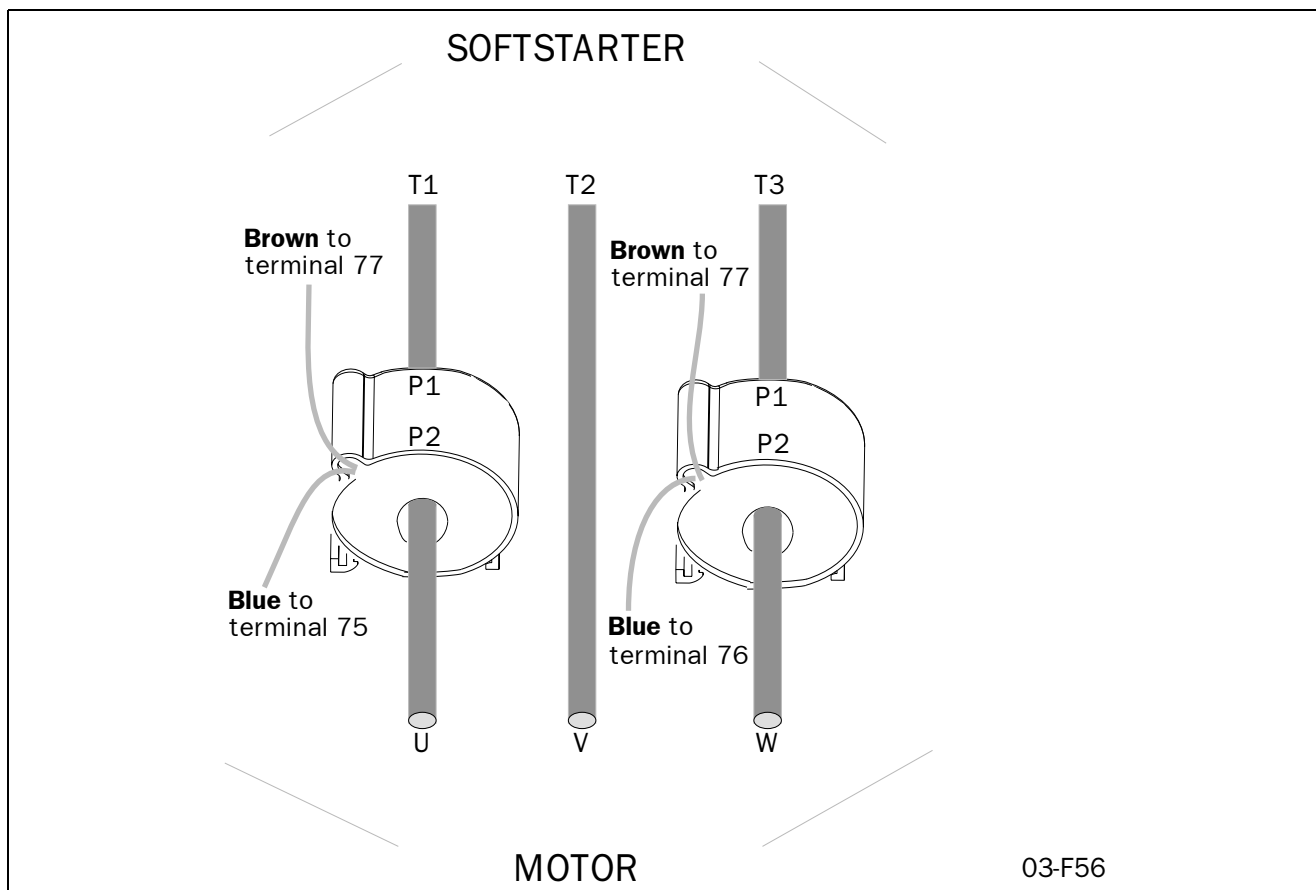
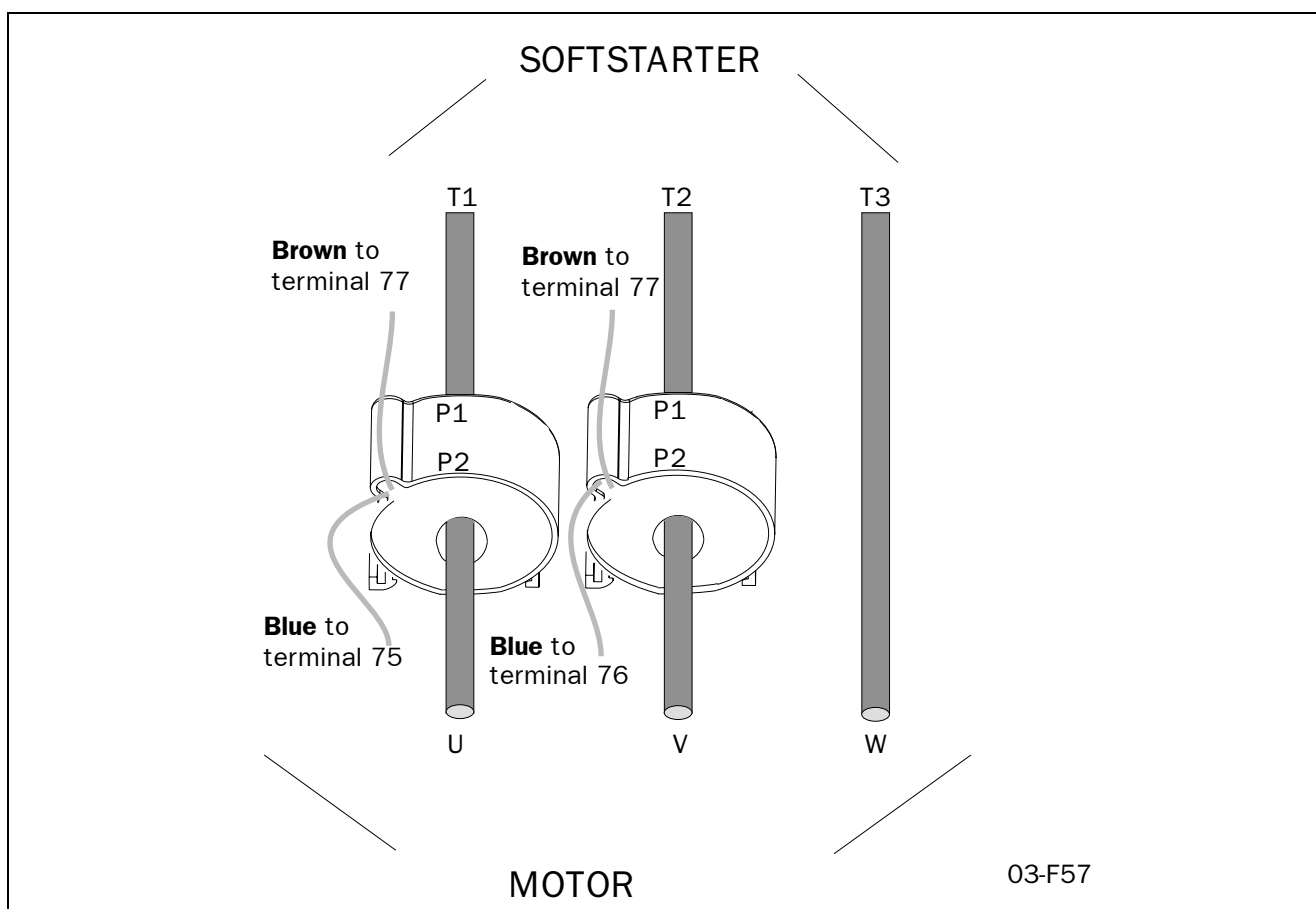

Fig. 44 Current transformer position when Bypass MSF-017 to MSF-250.
Fig. 45 Current transformer position when Bypass MSF-310 to MSF-1400.
**NOTE! If one like to use the alarm functions, the extended functions or the viewing functions the 2-pcs current transformers must be mounted outside the soft start as shown in Fig. 44 and Fig. 45 on page 45. For this purpose an optional extension cable for the current transformers is available. Code No 01-2020-00.**